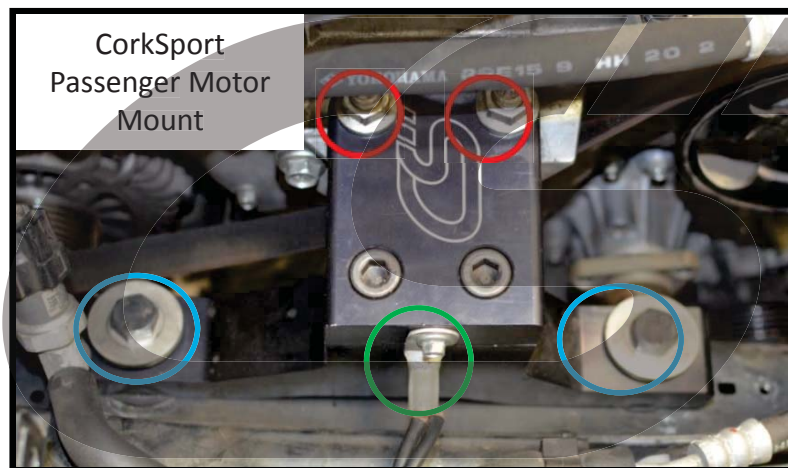

Figure 4c
- c) Remove the 8mm bolt holding the grounding cable. Green circle in Fig 4c & 4d.
- d) Remove the 17mm nuts attaching the PMM to the engine, red circles in Fig 4c & 4d.
- e) Remove the 17mm (19mm for CS) bolts holding the PMM to the chassis, blue circles in Fig 4c & 4d.